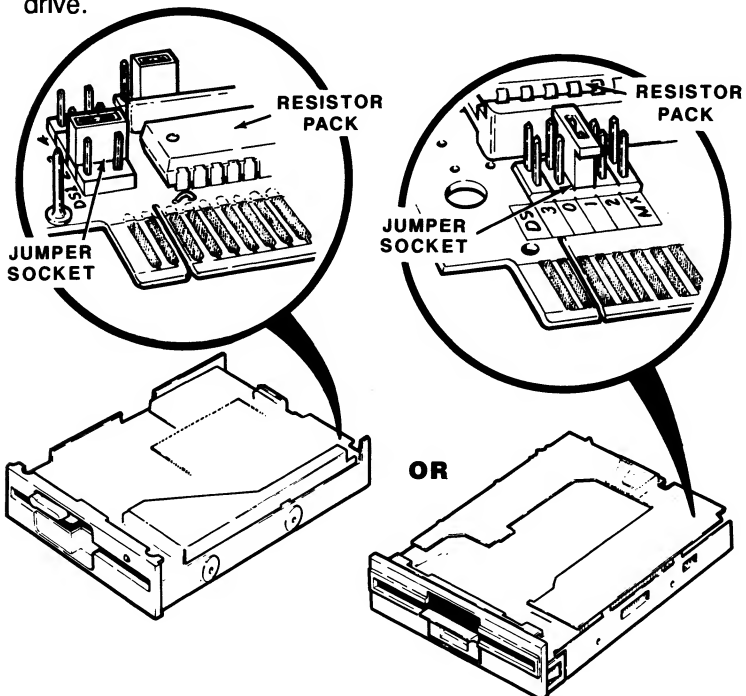

Figure 5-15. Drive Select Jumper Location on Typical 5.25-Inch Floppy Drives
6. Drives are usually shipped from the manufacturer with the jumper set as drive B (the second floppy disk drive). Refer to Figure 5-15 and verify that the drive select jumper (also referred to as a programming jumper) is set to the second position on the new drive. The location, designation, and type of jumpers may vary, depending on the manufacturer of the drive.